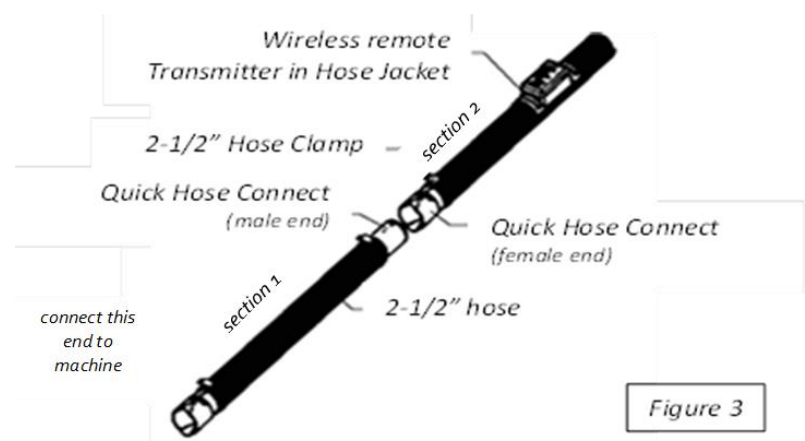

Figure 3
**Blowing Hose** (see Figure 3): The blowing hose further conditions the insulation as it transports the product from the airlock to the installation location. Note that you will want to use a minimum of 100 feet of hose to ensure proper material conditioning. Figure 3 provides an overview of the 2-1/2" hose provided with the system. Note the section with two connectors (section 1 in Figure 3) is connected to the FiberForce blowing machine; the section with the wireless remote transmitter (section 2 in Figure 3) is connected to the first piece.